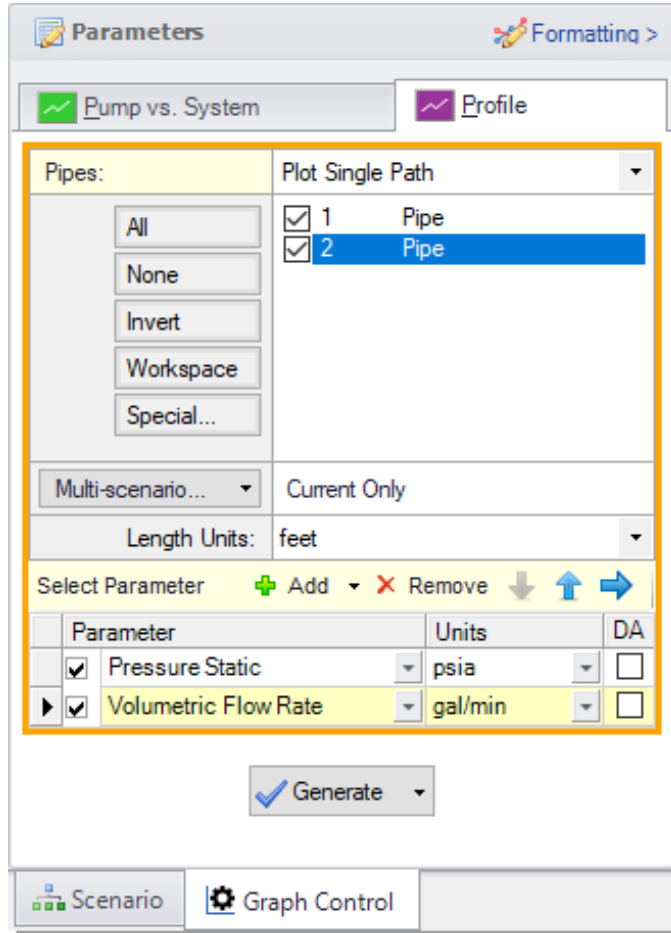

Figure 2.31 The Graph Control tab on the Quick Access Panel allows you to specify the graph parameters you want to graph in the Parameters/Formatting area
- **To add a stacked graph,** click the Add button with the green “+” icon next to Select Parameter, shown in Figure 2.31. A new row under the Parameters definition area will appear.